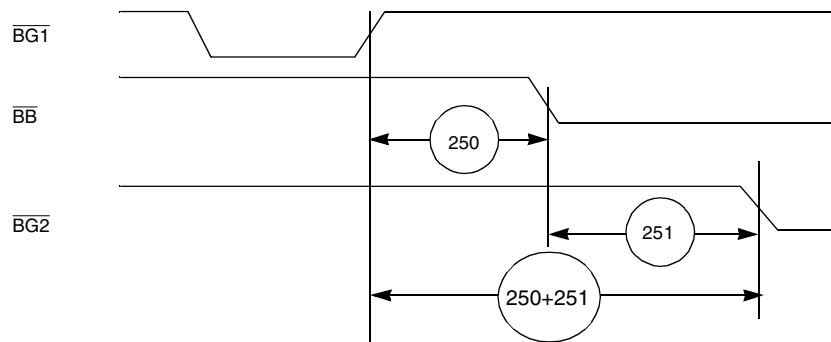

Figure 2-26. Asynchronous Bus Arbitration Timing
5. In order to guarantee timings 250, and 251, BG inputs must be asserted to different DSP56300 devices on the same bus in the non-overlap manner shown in **Figure 2-26**.